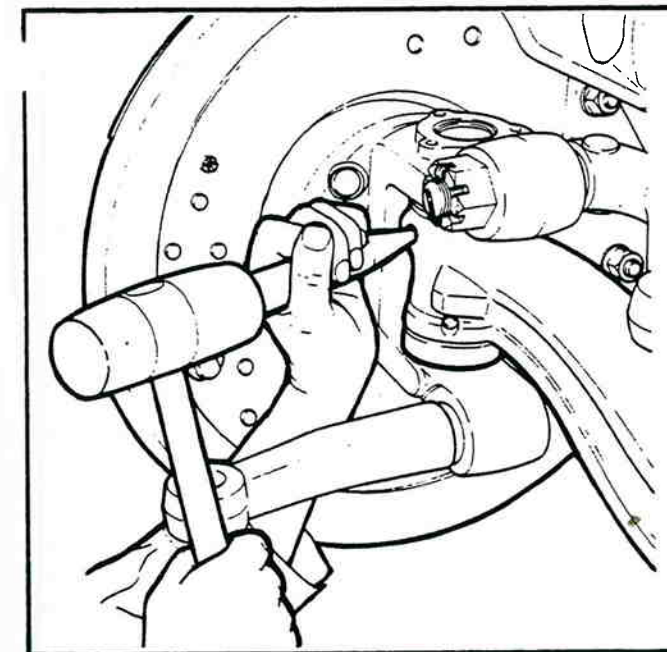

Figure 1-27. Seating Draw Keys.
6. Seating Draw Keys — The knuckle pins on later MC-9 units are retained by draw keys. After the specified end play is obtained, seat the draw keys firmly with a hammer and drift (figure 1-27).